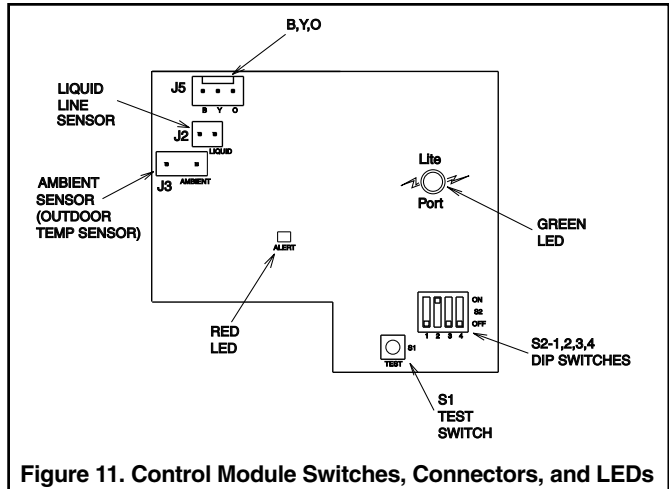

Figure 11. Control Module Switches, Connectors, and LEDs
1. Connect the 3-pin BYO low voltage wire harness (supplied in kit) to J5 on the Control Module (3-pin male connector). See Figure 11. Note: to ease the insertion of the connector housing on to the J5 header, place the connector on the tips of the three header pins. Angle the connector upward toward the header latch while pushing connector over the header pins.
5. Connect the Liquid Line Sensor to J2 on the Control Module. See Figure 11 on page 10.
6. Connect the Outdoor Temperature Sensor (Ambient Sensor) to J3 on the Control Module. See Figure 11 on page 10.
1. Connect the 3-pin BYO low voltage wire harness (supplied in kit) to J5 on the Control Module (3-pin male connector). See Figure 11. **Note:** to ease the insertion of the connector housing on to the J5 header, place the connector on the tips of the three header pins. Angle the connector upward toward the header latch while pushing connector over the header pins.
5. Connect the Liquid Line Sensor to J2 on the Control Module. See Figure 11.
The Control Module contains a momentary test switch (S1) and a 4-position installer selectable dip switch (S2). Both components are located in the lower right hand corner of the Control Module. See Figure 11 on page 10.
The Control Module contains two LEDs, one green and one red surface mount. See Figure 11 on page 10. The green LED is a status indicator labeled Lite Port on the Control Module and flashes at a ½ second on (plus fast blink at the end for lite port data) and ½ second off rate in the cooling mode. In the heating mode the green